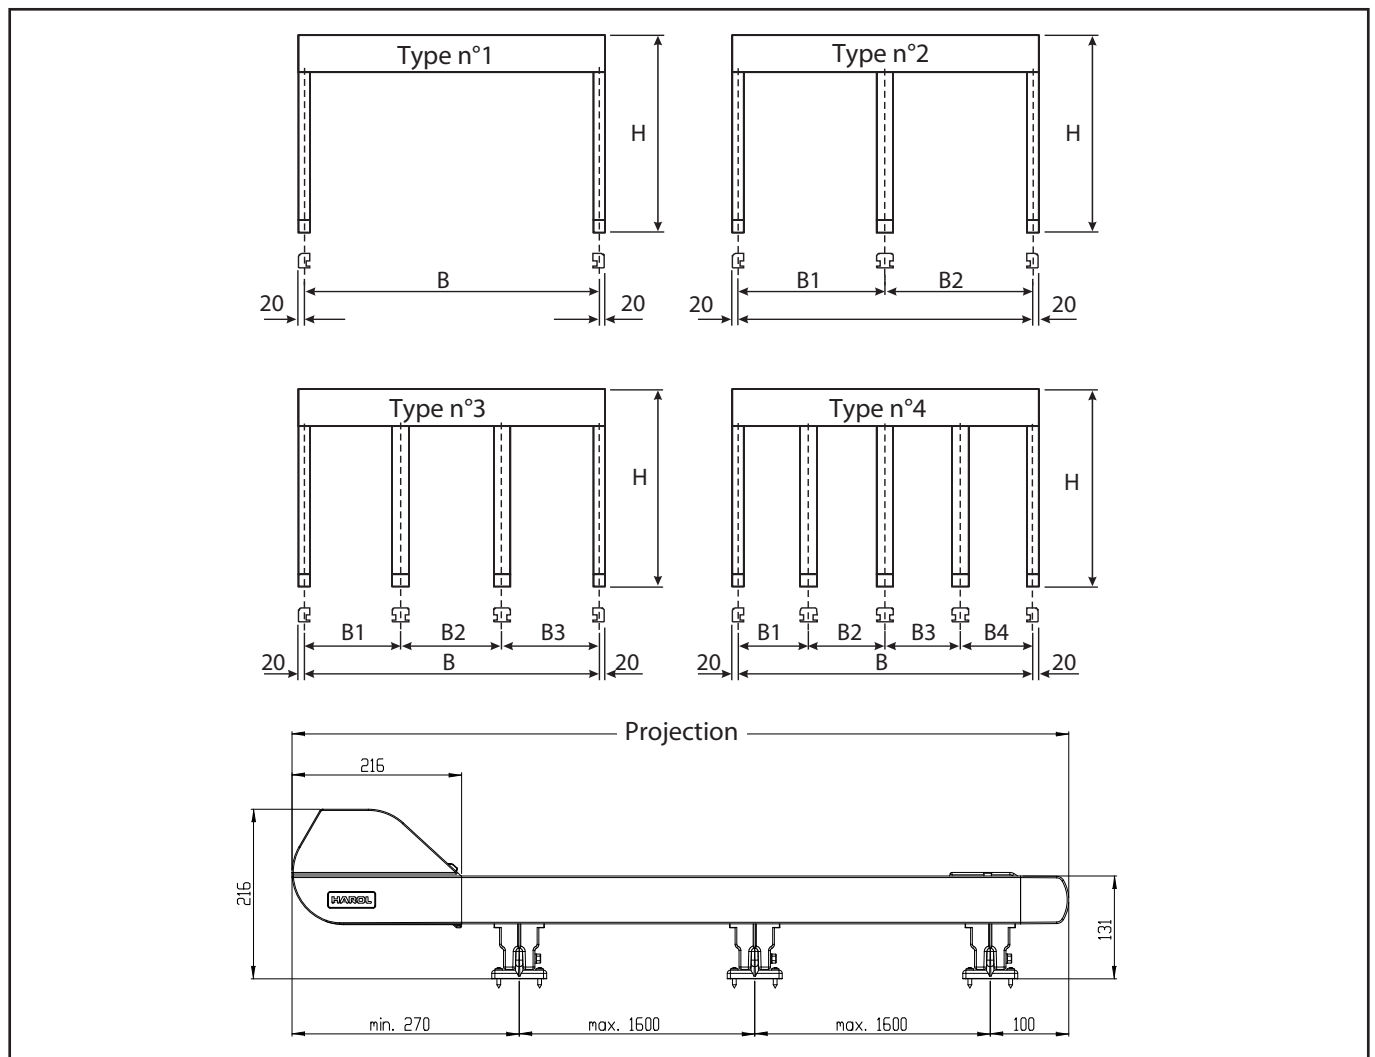

Fig. 14 : Measuring and assembly
- Note : the width of the roller box is always 40 mm more than the over-all width of the blind. (see figure 14 page 9)
- Check the attachment points (item 3.4)